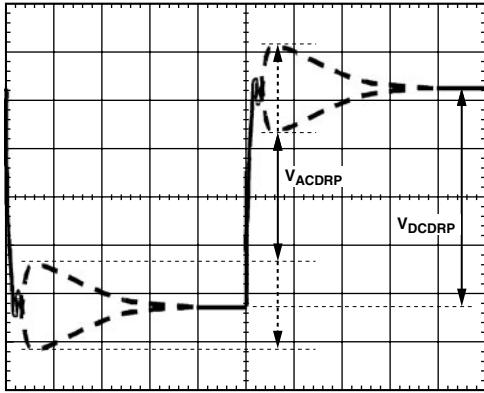

Figure 8. AC Loadline Waveform
- You will see a waveform that looks something like Figure 8. Use the horizontal cursors to measure  $V_{ACDRP}$  and  $V_{DCDRP}$  as shown. DO NOT MEASURE THE UNDERSHOOT OR OVERSHOOT THAT HAPPENS IMMEDIATELY AFTER THE STEP.